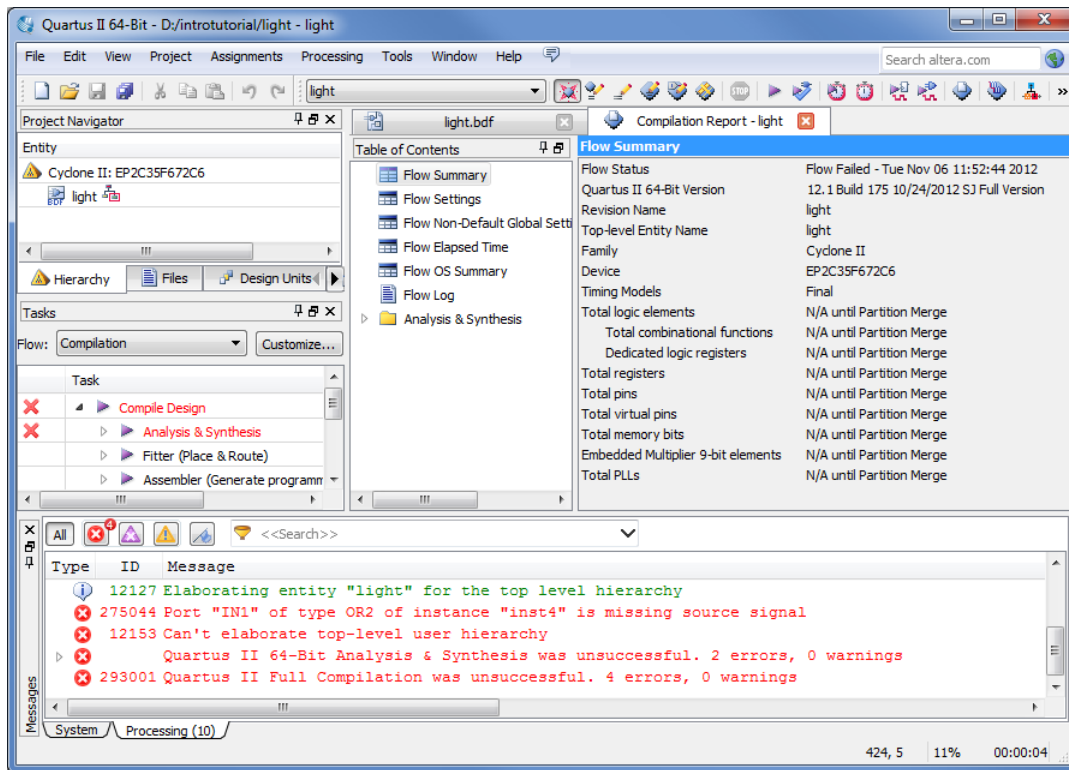

Figure 21. Compilation report for the failed design.
**To see the effect of an error, open the file *light.bdf*. Remove the wire connecting the output of the top AND gate to the OR gate. To do this, click on the  icon, click the mouse on the wire to be removed (to select it) and press Delete. Compile the erroneous design by clicking on the  icon. A pop-up box will ask if the changes made to the *light.bdf* file should be saved; click Yes. After trying to compile the circuit, Quartus II software will display a pop-up box indicating that the compilation was not successful. Acknowledge it by clicking OK. The compilation report summary, given in Figure 21, now confirms the failed result. In the Table of Contents panel, expand the Analysis**